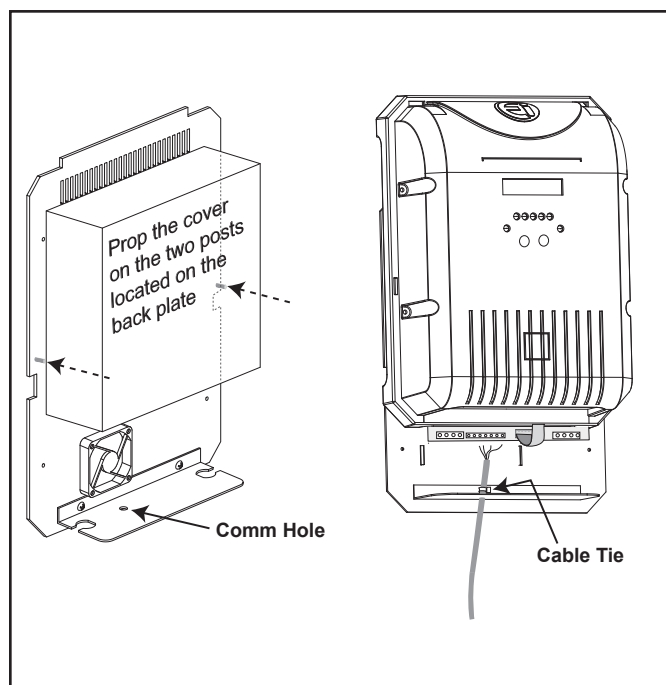

Figure 6. Accessing and Wiring to the Power PCB
2. Remove the screws attaching the cover to the back plate and prop the cover up to expose the terminals (see Figure 6).
3. Remove the white cap covering the comm hole (see Figure 6).
5. Attach a cable tie to the controller cable as shown (see Figure 6).